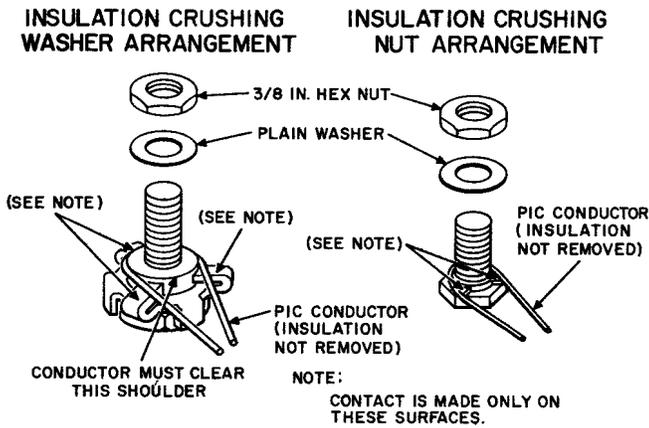

Fig. 8—Placing Plastic Insulated Conductors on Insulation-Crushing Washer (MD) or Insulation Crushing Nut
- (1) Loop the conductors through slack wire brackets and fanning strips where provided.
- (2) Form a hairpin loop in the conductor, place loop over binding post and position between flatwasher and pronged insulation-crushing washer (Fig. 8).
- (1) Loop conductors through distribution rings when provided.
- (2) Feed conductors through appropriate holes of fanning strip.
(3) Form a hairpin loop in the end of the conductor and place around the binding post between pronged nut and plain washer (Fig. 8). Observe **Caution** in 3.01(3).
(4) Tighten hex nut with 216B tool to crush insulation of conductor, permitting electrical connection between conductor and anvils of pronged nut.
(5) Cut and remove the end of the conductor as close to the binding post as feasible.